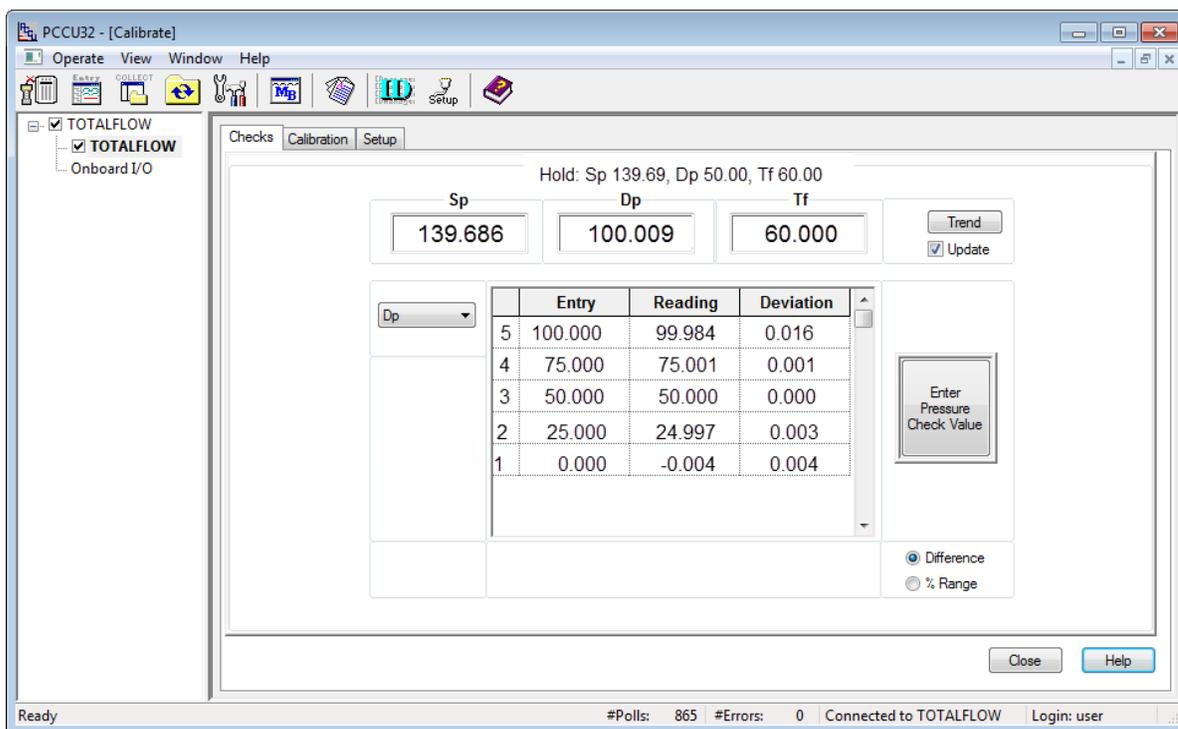

Figure 88: DP calibration pressure checks
3. On the Checks tab, select **DP** from the Calibration drop-down menu (Figure 88).